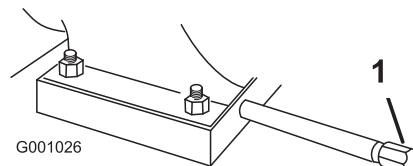

Figure 44
- Clean the area around the oil drain cap (Figure 44).